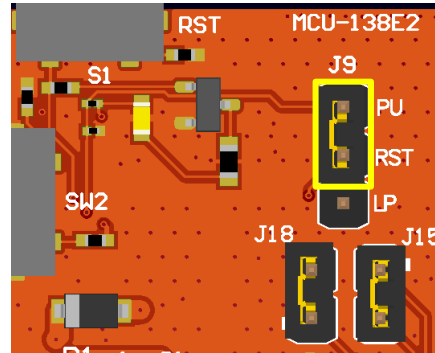

Figure 2-15. nReset Pull up
The LP-EM-CC35X1 gives the option to route the Reset line to the LaunchPad header (pin 16) to control the reset line externally. To route the nRESET line to the LaunchPad header pin instead of the default pull up, jumper J9 needs to be placed on the bottom two pins. J9 is in the pull up (PU) configuration, therefore, the nRESET line is pulled up when power is supplied to the board, as shown in Figure 2-15